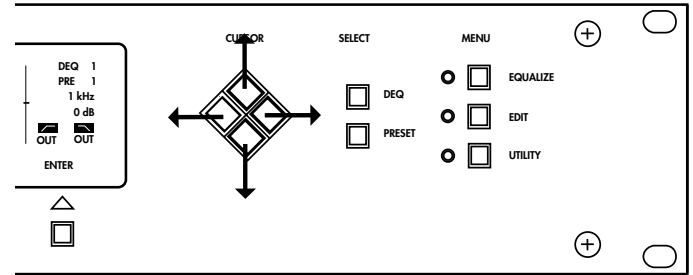

Figure 2.5: Cursor Keys
2. Titles are entered by using the UP and DOWN cursor keys to cycle through the character set and the LEFT and RIGHT cursor keys to position the cursor (see Figure 2.5). The cursor